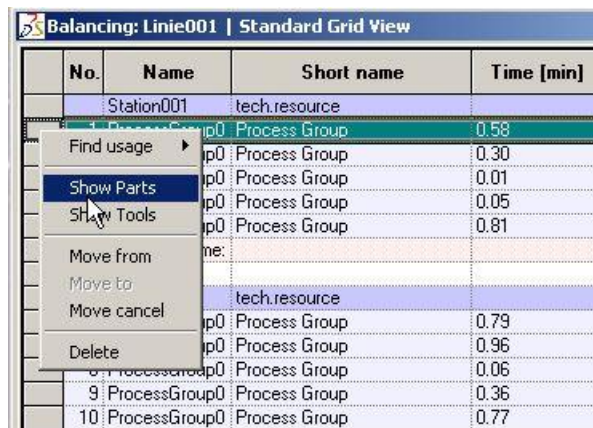

Figure 19: Context Menu Item – Show Parts
- If the menu item is activated in the WLB configuration, open the dialog via the context menu. *Please refer to the Figure 19*, the links of the process to parts are shown with the aid of the menu item **Show Parts**.